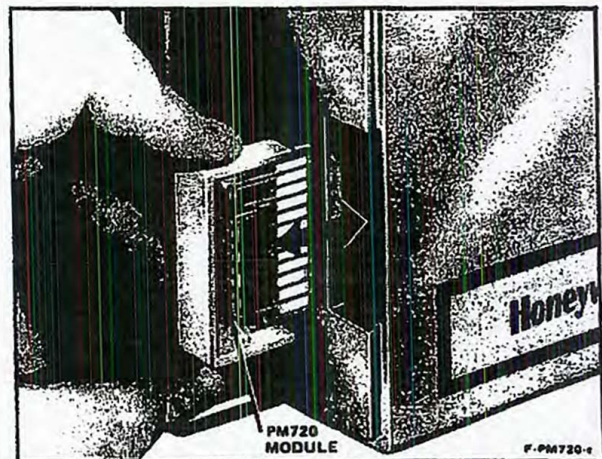

FIG. 12—INSTALLING THE PM720 PROGRAM MODULE IN THE BC7000 MICROCOMPUTER BURNER CONTROL SYSTEM.
3. Insert the program module into the opening in the side of the amplifier compartment (see Fig. 12). NOTE THAT THE MODULE IS KEYED.
INSTALLING THE PM720 PROGRAM MODULE (Fig. 12)